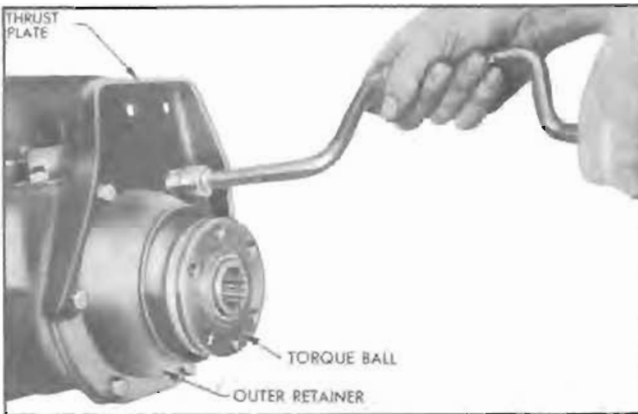

Figure 4-85—Removing Torque Ball
2. Remove attaching bolts, then remove the mounting thrust plate and gasket, torque ball and inner and outer retainers, and all paper shims. See figure 4-85. Do not lose the paper shims which govern the adjustment of torque ball.